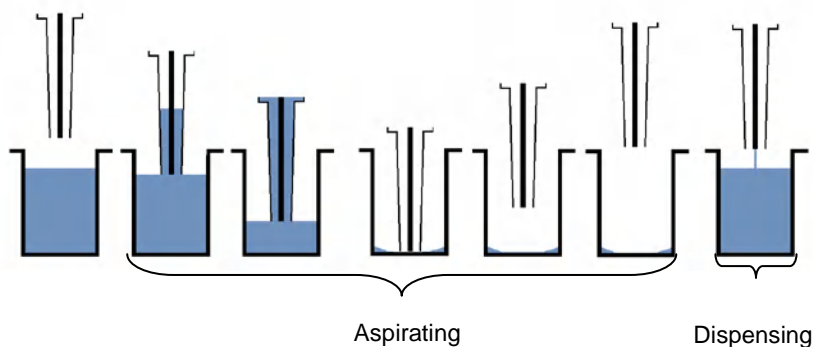

Figure 32. Principle of Wash step (Normal)
- **Yes** – Unused strips are processed dry. The time parameters are measured during the first protocol run. The wash head stays above unused strips for as long as it takes to process each selected strip. This selection is recommended when the timing for washing strips is critical. You can maintain the time between cycles constant with this option. It is recommended to carry out a dummy run before the actual samples. Refer to Figure 32.